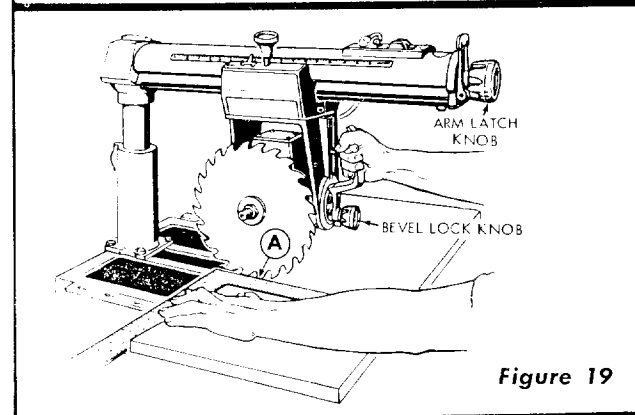
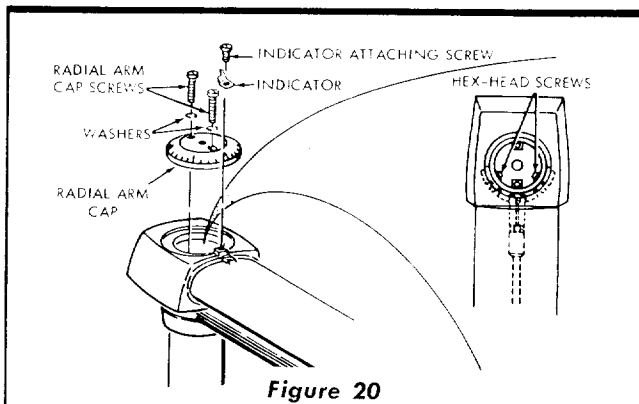

Figure 19
Figure 20
- Place a framing square on the table as shown in figure 19 and position the saw and square until the leg of the square just contacts a tooth of the saw blade. (Position "A", figure 19.) Mark this tooth with crayon or chalk.
- If saw tooth ("A", figure 19) moves away from the square when moving the blade from the rear toward the front of the table, tap the right-hand front edge
- b. If the saw tooth ("A", figure 19) moves into the square when moving saw from the rear to the front of saw table, tap the left-hand front edge of table.
- a. Remove two screws in radial arm cap (figure 20); miter-scale indicator and radial arm cap.
- b. Turn the arm latch knob (figure 19) one-quarter turn counterclockwise but do not pull it out.
- c. Loosen (do not remove) two hex-head screws (figure 20) located inside the column tube.
- d. Move the radial arm slightly in proper direction to make saw tooth ("A", figure 19) follow edge of square when the saw blade is moved in and out in a "cross-cut" manner.
- e. Re-tighten the hex-head screws in column tube (figure 20) and arm latch knob (figure 19.)
- g. After the cross-cut has been accurately squared, install the radial arm cap (figure 20) and miter-scale indicator. Set the indicator at the 0° position.